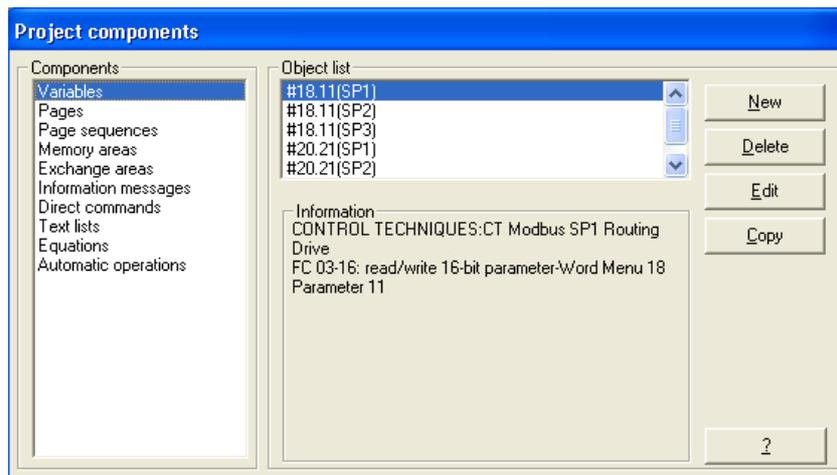

Fig. 17.
3.16 After declaring these six variables, the Project components window should show them within the Object list box. See Fig. 17.